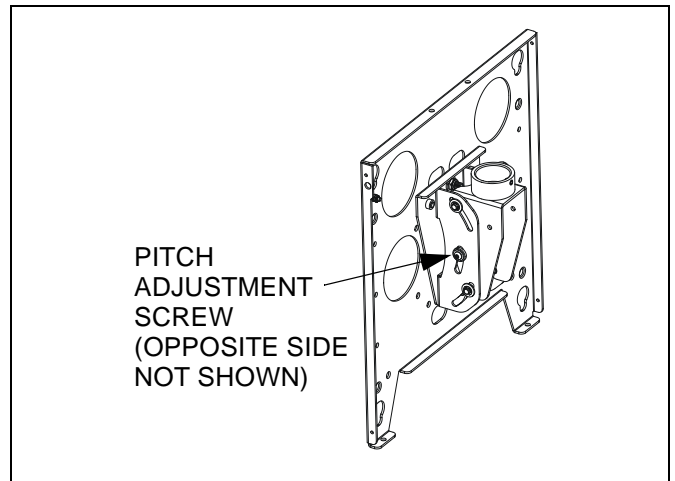

Figure 8: Pitch Adjustment
- If necessary, use hex wrench (30) to loosen both pitch adjustment screws, one on each side of mount (See Figure 8).
- If necessary, use hex wrench (30) to tighten pitch adjustment screws.